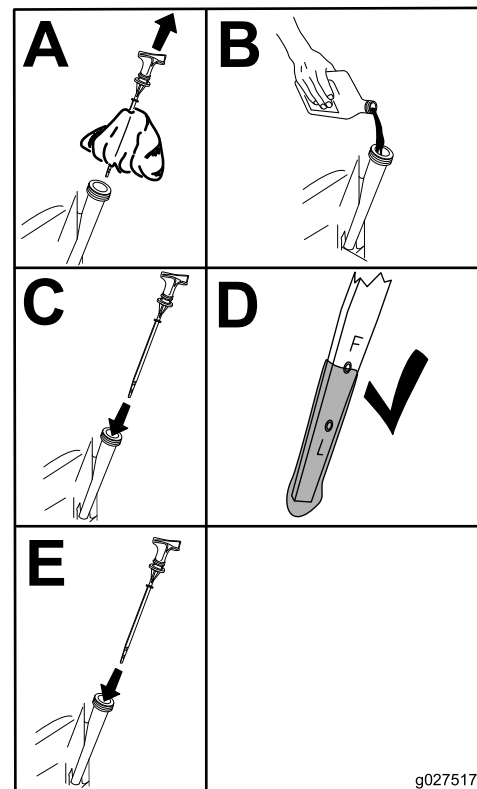

Figure 40
6. Slowly pour approximately 80% of the specified oil into the filler tube (Figure 40).